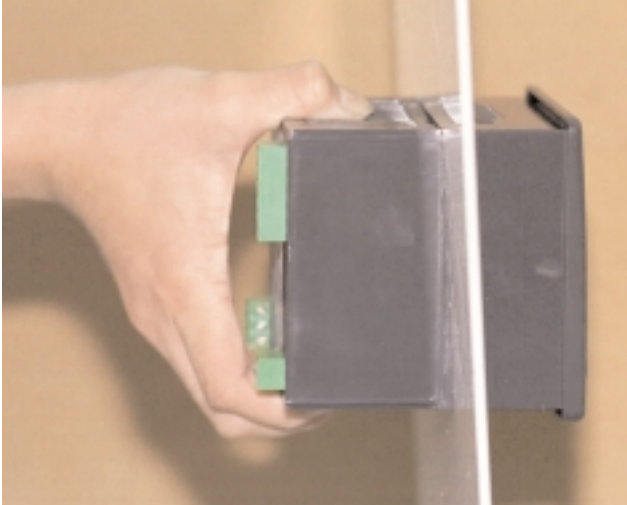

Figure 5a - Slightly compress the case while pulling the controller into the panel cutout.
4. Slightly compress the top and bottom side of the V4 Case while pulling the controller into the panel cutout (Figure 5a). Slide the mounting collar over the back of the controller. The tabs on the collar must line up with the mounting ridges on the case for secure installation. The tab holes are facing the back of the controller.